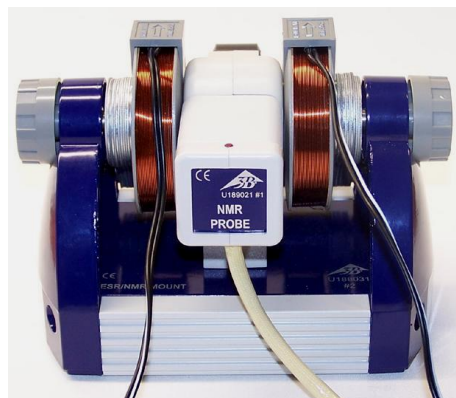

Fig. 8 Basic unit with probe
- Insert the probe into the sample chamber in such a way that it rests on the housing (see Fig. 8).